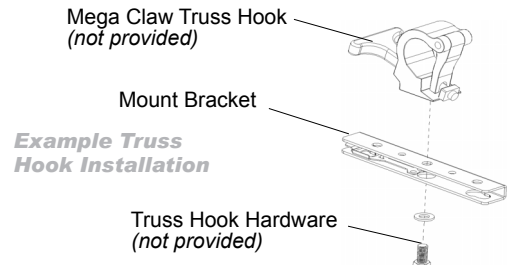

Figure 9: Truss Hook Installation
- Step 1. Install truss hooks on two provided truss hook brackets as required as shown in **Figure 9**.